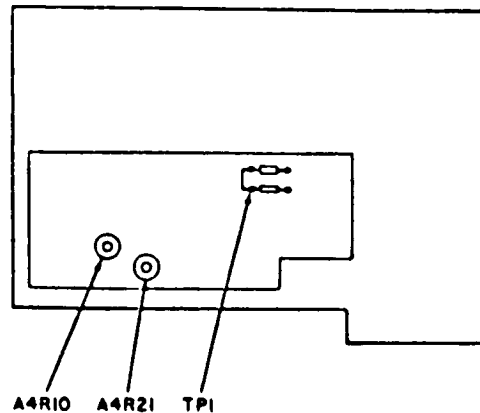

Figure 3. Test instrument - bottom view.
- (1) Adjust output frequency control to frequency where amplitude is 80 mV or greater.
(2) Adjust **A4R21** (fig. 3) until oscilloscope indication is slightly increased, then slowly adjust in opposite direction until oscilloscope indication just collapses (R).
(2) Adjust **ATTENUATOR VERNIER** control for a 0.2 V indication on **R.M.S. VOLTS** meter. If measuring receiver does not indicate between 45 and 55 percent modulation, adjust **A4R21** (fig. 3) for 50 percent modulation on measuring receiver (R).
(3) Repeat **a** above.